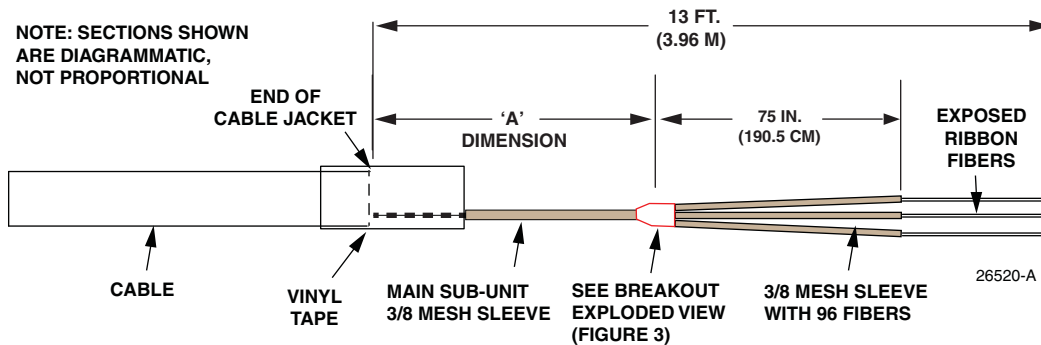

Figure 9. OSP Central Core Cable Breakout
- c. **Central Core Cable:** Refer to Figure 9 and Table 6. Use the following procedure to install the breakout kit.
- Cut a piece of mesh sleeve of length = Dimension A in Table 6. Slide the mesh sleeve over the main sub-unit as shown in Figure 9.
- Install mesh sleeve of length = 75 in. (190.5 cm) on each 96-fiber branch of the breakout as shown in Figure 9.
- Install a breakout kit at the location shown in Figure 9. For details refer to Section 7 on page 4.